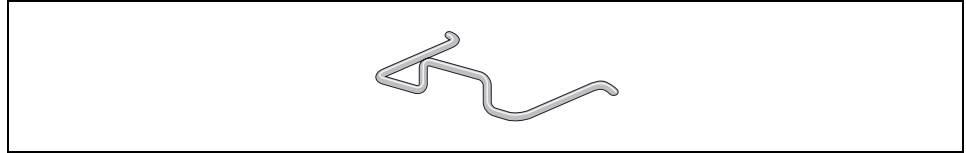

Figure 15. Power Cord Retaining Clip
1. Locate the power cord retaining clip, as shown in Figure 15.